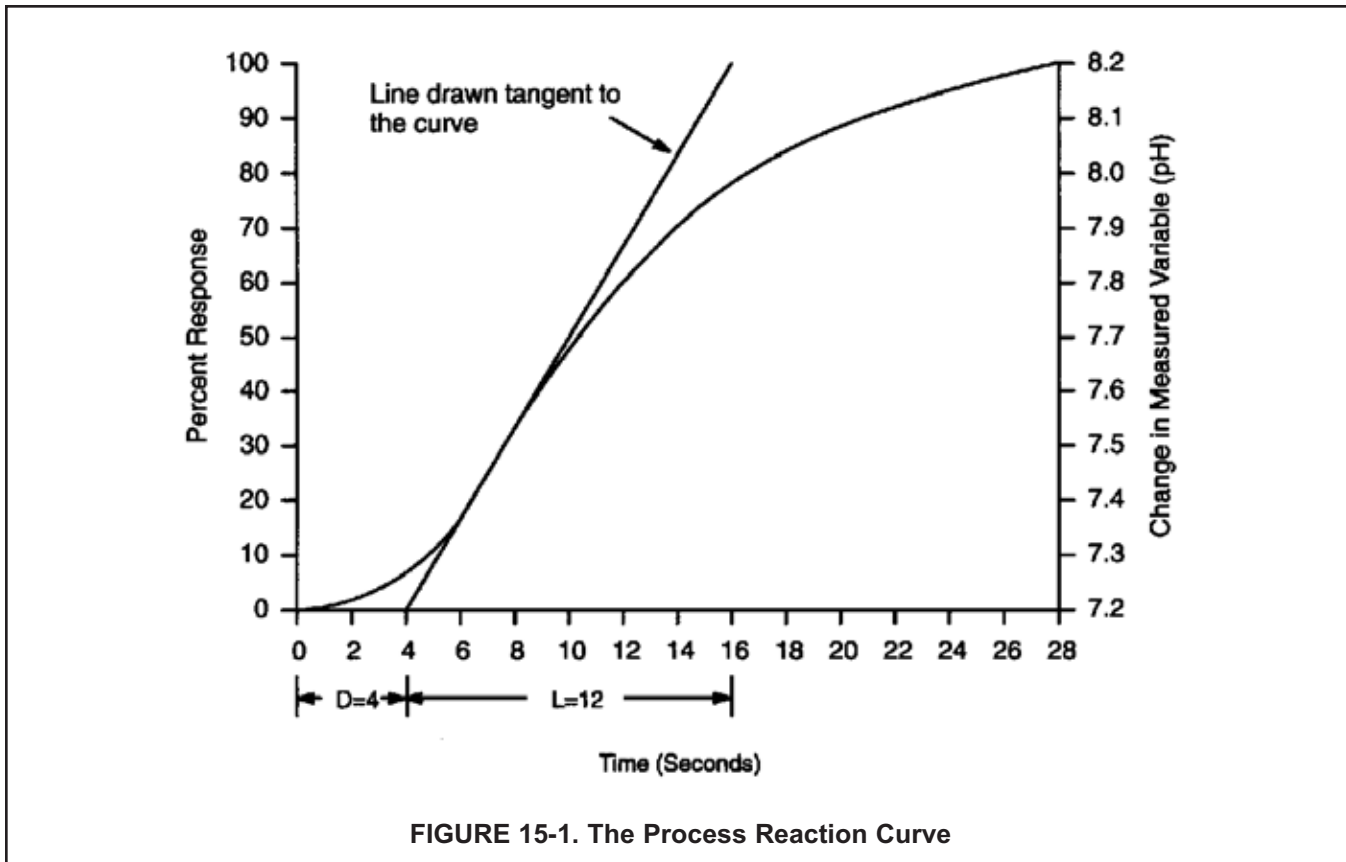

FIGURE 15-1. The Process Reaction Curve
Graph the change in the measured variable (concentration or pH) as shown in Figure 15-1. Observe the reading on the Model 54eA controller and note values at intervals timed with a stop watch. A strip chart recorder can be used for slower reacting processes. To collect the data, perform the following steps:
5. The reaction of the system, when graphed, will resemble Figure 15-1, showing a change in the measured variable over the change in time. After a period of time (the process delay time), the measured variable will start to increase (or decrease) rapidly. At some further time the process will begin to change less rapidly as the process begins to stabilize from the imposed step change. It is important to collect data for a long enough period of time to see the process begin to level off to establish a tangent to the process reaction curve.
A line is drawn on the process reaction curve tangent to the curve at point of maximum rise (slope) as shown in Figure 15-1. The Time Delay (D), or lag time, extends from "zero time" on the horizontal axis to the point where the tangent line intersects the time axis. The Response Time period (L), extends from the end of delay period to the time at which the tangent line intersects the 100% reaction completion line representing the process stabilization value. The ratio (R) of the Response Time period to the Time Delay describes the dynamic behavior of the system.
In the example shown in Figure 15-1: